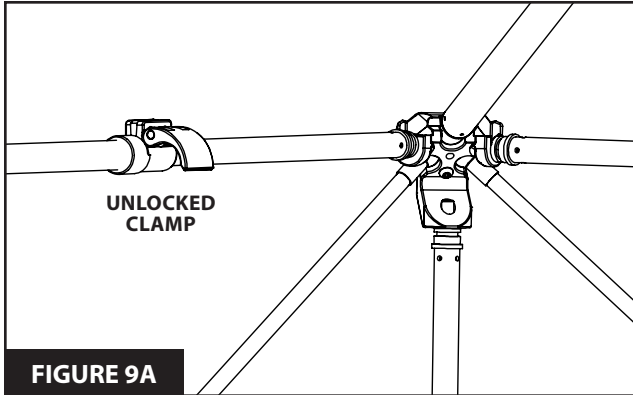
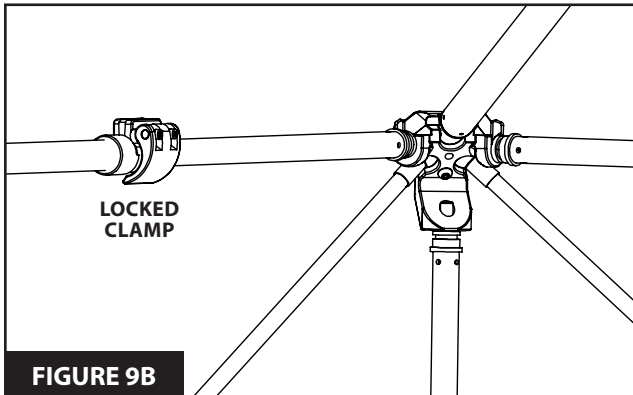

FIGURE 9A
FIGURE 9B
15. Go back to the (4) horizontal spreader poles; while spreading them outward (tight), flip clamp lever into the locked position. **SEE FIGURE 9A & FIGURE 9B.**